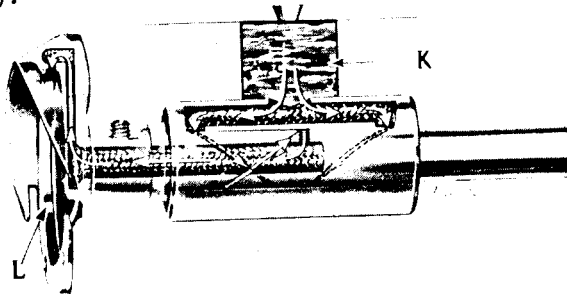

Fig. 3. X-ray View of Hook
Before starting the machine, fill the oil reservoir (K, Fig. 3) through the oil hole in the bed of the machine. This reservoir lubricates the front hook shaft bearing and sewing hook raceway through the oiling system shown in Fig. 3.
When starting a new machine, it is advisable each morning, for about a week, to apply a few drops of oil directly to the hook raceway (L, Fig. 3). ALWAYS KEEP A SUPPLY OF OIL IN THE RESERVOIR (K).